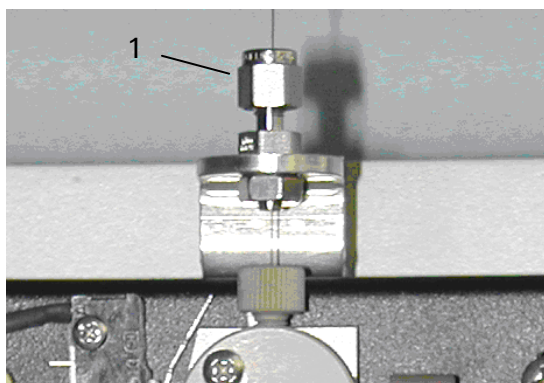

FIGURE D-4 Installing the Fused Silica Capillary
- b) Install the fused silica capillary into the metal port above the needle tee using the installed nut, a ferrule and a PEEK sleeve; then guide the capillary through the upper port the needle tee and all the way through the needle (FIGURE D-4).
- c) Turn the fitting until it is finger tight. You should not be able to move the capillary laterally along the tubing axis (item 1, FIGURE D-4).